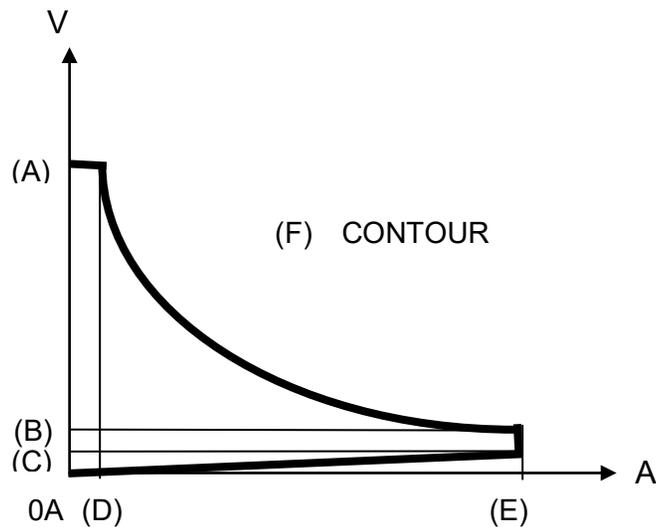

Fig 1-1 33611F Series Power Contour
The 33611F Series Electronic Load is designed to test, evaluation and burn-in of DC power supplies and batteries. The 33611F Series electronic load can be operated for manual and GPIB operation. The power contour of 33611F 2400 Watts Electronic Load is shown in Fig 1-1, it has an input from 0-80A, and 0-500V current and voltage operating range respectively. The power contour of 33611F Series. The prodigit 33611F Series high power electronic Load can be controlled locally at the front panel or remotely via computer over the GPIB/RS-232C/USB/LAN. Current (CC) mode, Constant Resistance (CR) mode, and Constant Voltage (CV) mode. and Constant Power (CP) mode. The wide range dynamic load with independent rise and fall current slew rate and analog programming input with arbitrary wave-form input is available in Constant Current mode.